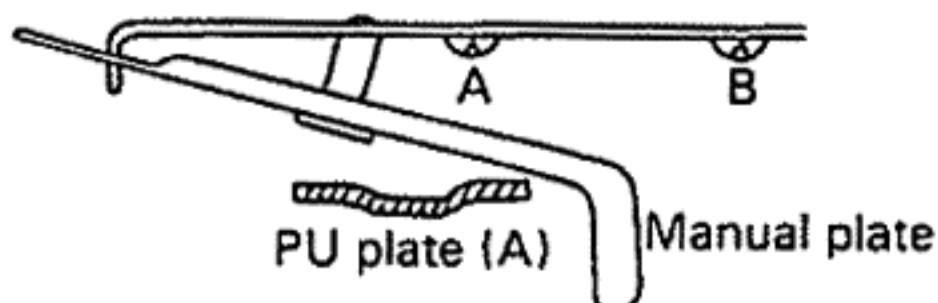

Figure 9
2) When loosening screw A and B (See Figure 9) for replacing the Plate, refer to the following adjustment.